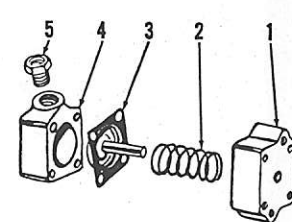

Fig. 290—Exploded view of pressure control diaphragm.
The servo piston (7) and matched sleeve (8) connect the control diaphragm assembly (Fig. 290) to control passage of pressure valve. When servo piston is against stop pin in valve body (9—Fig. 289) the diaphragm passage is open to reservoir. As pressure builds up in ram cylinder circuit and piston (7) moves upward against spring pressure, the diaphragm exhaust passage is closed. When the pressure limit is reached, fluid passes servo piston to diaphragm passage, extending the diaphragm
Relief valve (10) is pre-set at a slightly higher pressure than diaphragm return spring (2—Fig. 290). The valve provides a safety relief passage if diaphragm plunger malfunctions or system is improperly adjusted.